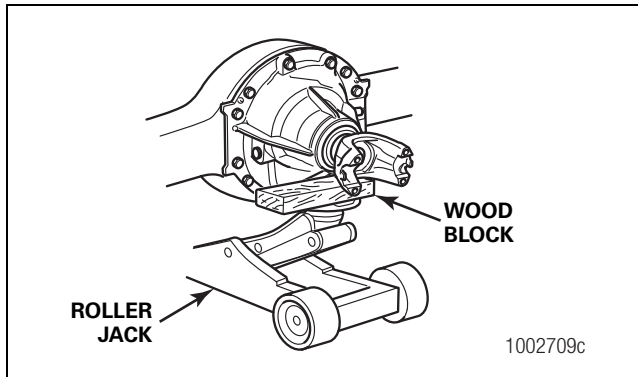

Figure 3.17
1. Place a hydraulic roller jack under the differential carrier to support the assembly. Figure 3.17.